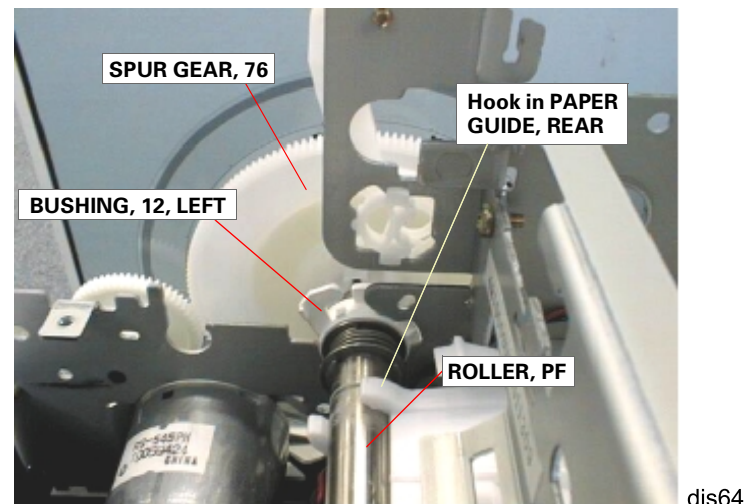

Figure 4-58. ROLLER, PF Removal
- Avoid touching the tooth plane of SPUR GEAR 76 attached to the left end of ROLLER, PF. (See Figure 4-58.)